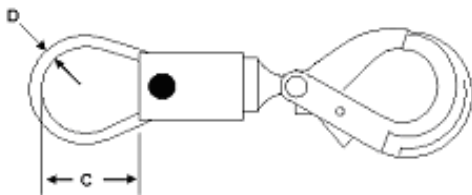

Figure 3. Swivel Dimensions
- c. Inspect the swivel for the dimensions shown in figure 3 and table 1. If dimensions exceed those in table 1, remove the swivel from service. See C. Refurbishing Procedures.